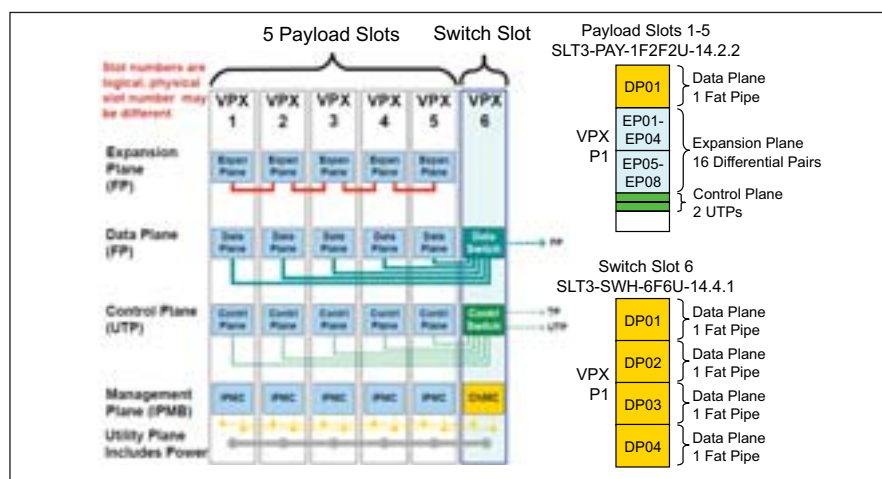

Figure 3. OpenVPX 3U 6-Slot Backplane BKP3-CEN06-15.2.2-n showing definition for the payload slot profiles and switch slot profiles.
After reviewing the 3U OpenVPX backplane choices in the standard, the most appropriate for our system is the 6-Slot backplane profile BKP3-CEN06-15.2.2-1, which has five payload slots and one switch slot as shown in Figure 3.
This backplane defines specific slot profiles for the two types of slots. Slots 1 through 5 use the payload slot profile SLT3-PAY-1F2F2U-14.2.2 shown in the upper right section of Figure 3. To see if we can use the Model 5353 in the payload slots, we must verify that the Model 5353 has a module profile compatible with this slot profile.
14.4.1, whose VPX P1 connections are shown in the bottom right section of Figure 3. The four data plane fat pipes shown (DP01 — DP04) connect to payload slot fat pipes DP01 on slots 1 through 4.